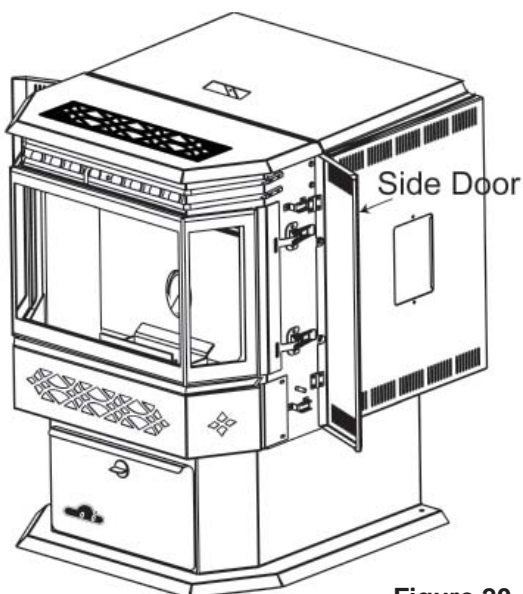

Figure 20
1. Open the viewing door. See **Figure 20 and 21**
1. Open side door, release the latch and pivot the viewing door wide open. See **Figure 20 and 22**.